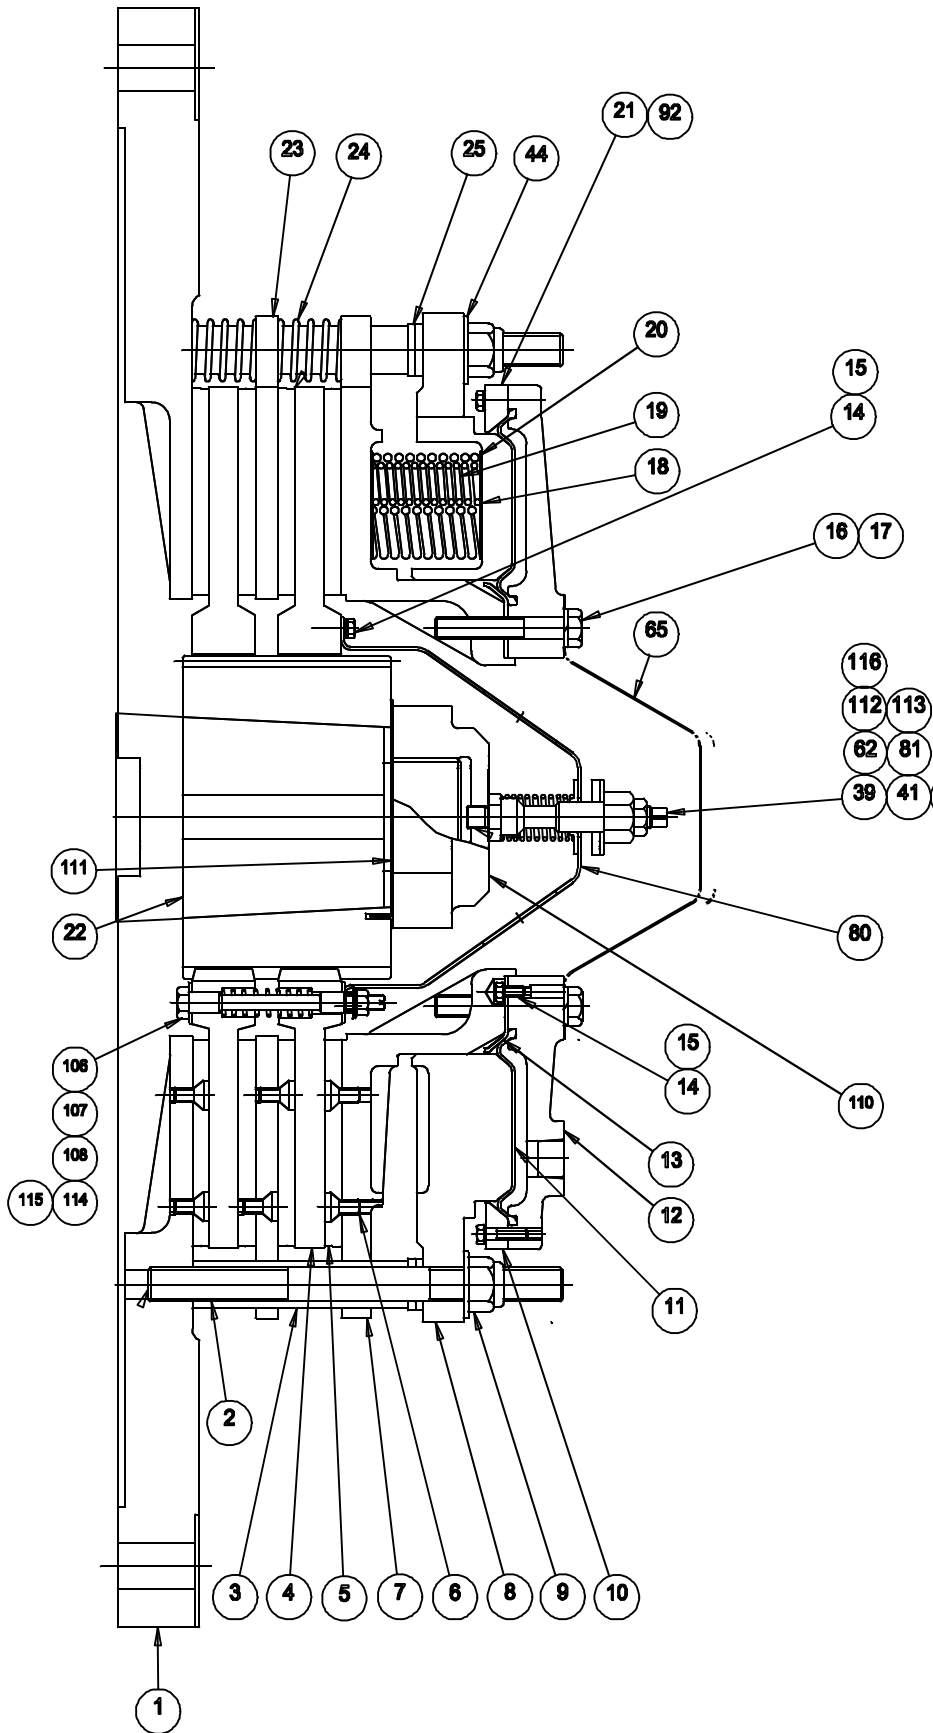

Fig. 1
- 1.2.1 Referring to Figure 1, the gear (22) is mounted on the shaft which is to be stopped and the brake assembly is attached to the motor frame.
**Excessive grease application on the driving gear (22) may result in contamination of the friction material. Grease on the discs or the friction discs will significantly reduce the torque capacity of the brake and decrease its ability to hold the machinery in a safe position.**
2.3.4 Apply Loctite 242 to the threads on the centering screw (62) that will screw into the motor shaft nut. See Fig. 1.